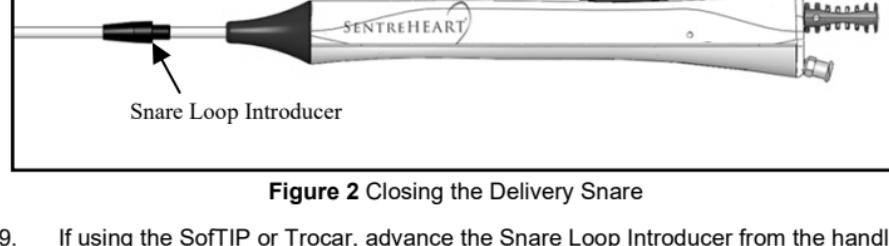

Figure 2 Closing the Delivery Snare
- Close the LARIAT RS Delivery Snare by sliding the Snare Actuator Slide located on the top of the handle as shown in Figure 2. Retract until the Snare Actuator Slide stops as indicated by the “-” symbol or until resistance is felt.